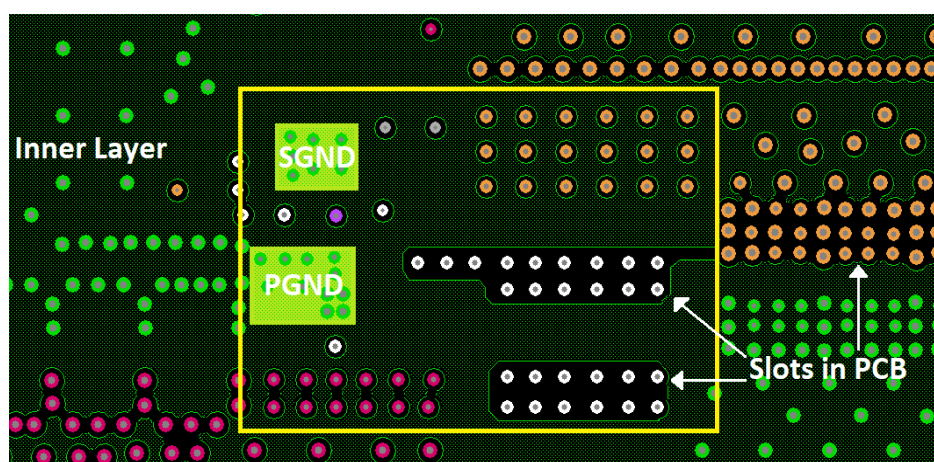

Figure 6. Layout Example - SGND is Connected to PGND Through Internal Layer
- Use full ground planes in the internal layers (underneath the module) with shared SGND and PGND to simplify the layout design. Renesas recommends using slots (as shown in Figure 6 on page 7) to ensure that the switching current avoids the SGND pad of the module. Use as much GND plane as possible for the layer directly above the bottom layer (containing components such as input caps and output caps). Use the top and bottom layers to route the EN, VCC, and PGOOD signals.